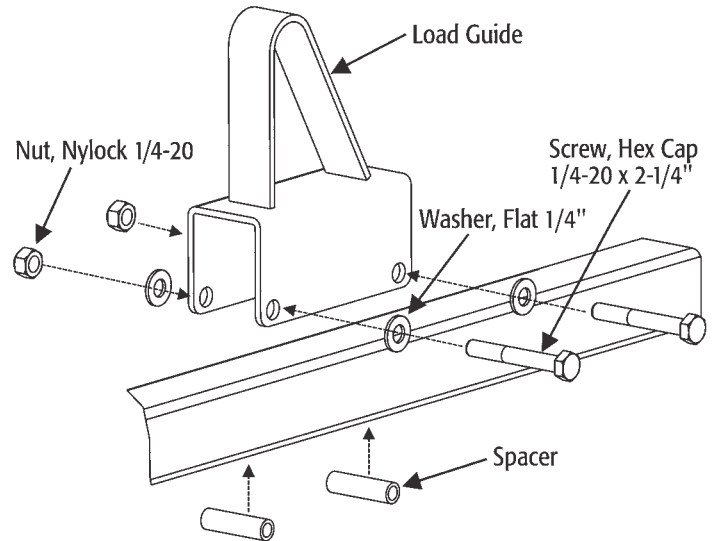

Fig. 1
- 2.** Install all hardware *as shown in Fig.1*. Make sure to place spacers into opening of U-shaped base to prevent collapsing of this part.